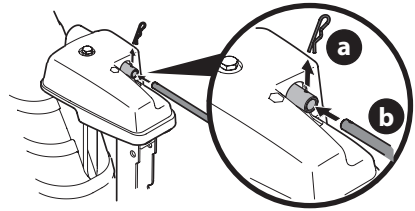

Figure 17
- Remove hairpin clip (a) from rear of chute control head (Figure 17).
- Insert chute control rod (b) into rear of chute control head (Figure 17) and secure with hairpin clip (a) removed in Step 5.